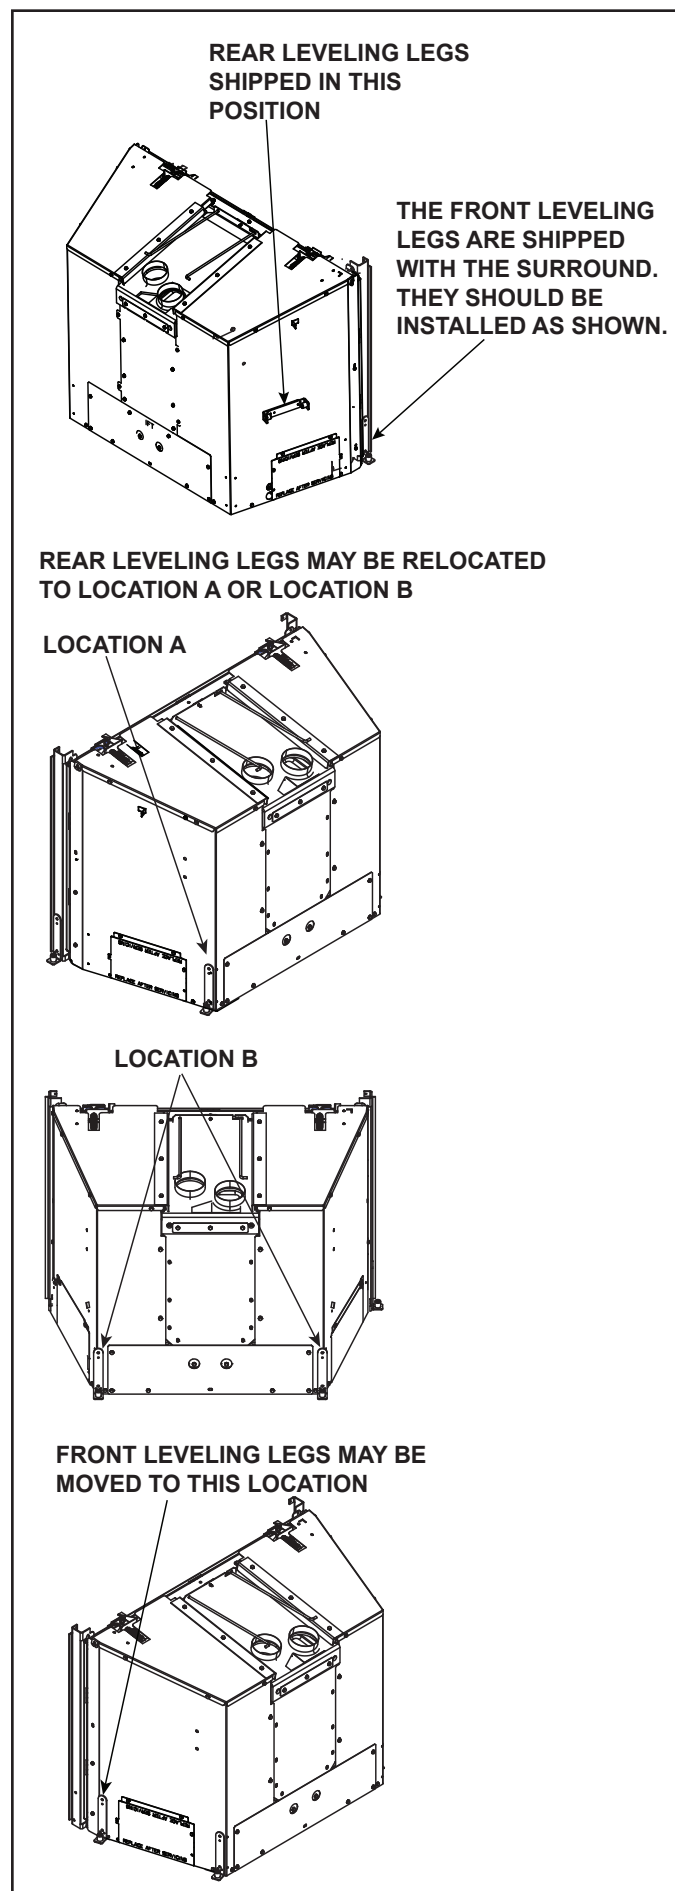

Figure 7.3
- Remove rear leveling legs from shipping position and relocate to one of the positions shown in Figure 7.3. Remove both screws that secure the leveling leg to the side of the appliance. Turn the leveling leg around so that the foot is facing out and downward. Line up the two holes on the leg with the holes on the appliance and secure with screws. See Figure 7.3.
- Front leveling legs are shipped with surround and may be installed in one of two locations. See Figure 7.3.